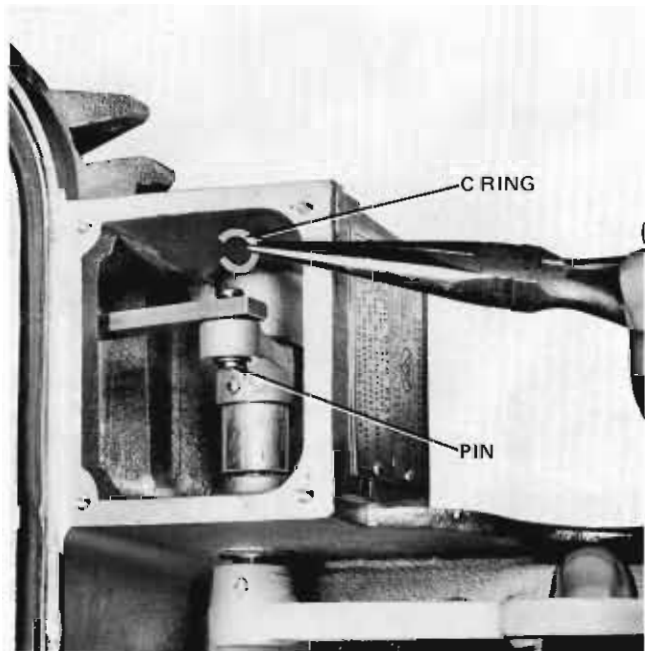

Figure 15
1. Remove sleet hood box cover plate. Then remove C ring, Figure 15, and pull pin.